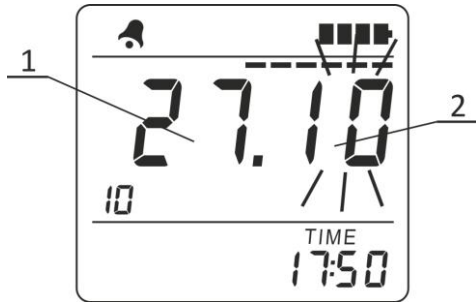

Figure 2.14 – LCD of the radiometer
A short press of MODE button saves a new value of the year in the radiometer's memory. The new value of year blinks three times on the LCD of the radiometer to show that it has been saved. The date (1) and month (2) are then displayed on the LCD (Figure 2.14). When the month digits are blinking, it means that their values can be programmed. They are programmed with the help of THRESHOLD button in a similar way to the minute digits programming.